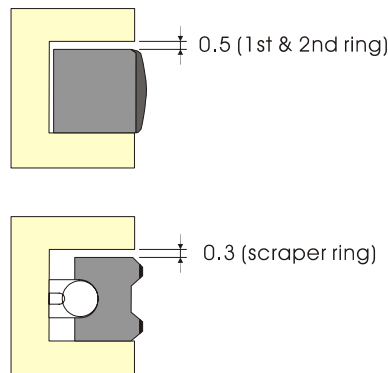

Fig.3 The maximum vertical clearance of piston rings (피스톤 링의 최대 수직 틈새)
6. Inspect the piston rings for wear carefully as shown in fig. 3.  G09200